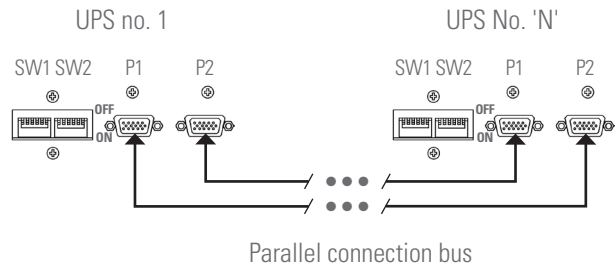

Fig. 25. DB15 connectors on the communication bus.
- **Parallel connection bus.** Use the 15-wire signal hose with mesh and DB15 connectors at the ends to attach a maximum of 5 sub-racks with the sequence shown in Fig. 25. Each hose has a male and a female connector at the ends, which must be connected between two correlative devices. It is imperative to close the bus loop in parallel. The length of the parallel cable is about 1.5 meters and should not be prolonged under any circumstances due to the risk of interferences and failures in the communication that this would entail. Fig. 25 shows an installation with two devices in parallel. For five units, proceed similarly to close the communications bus.